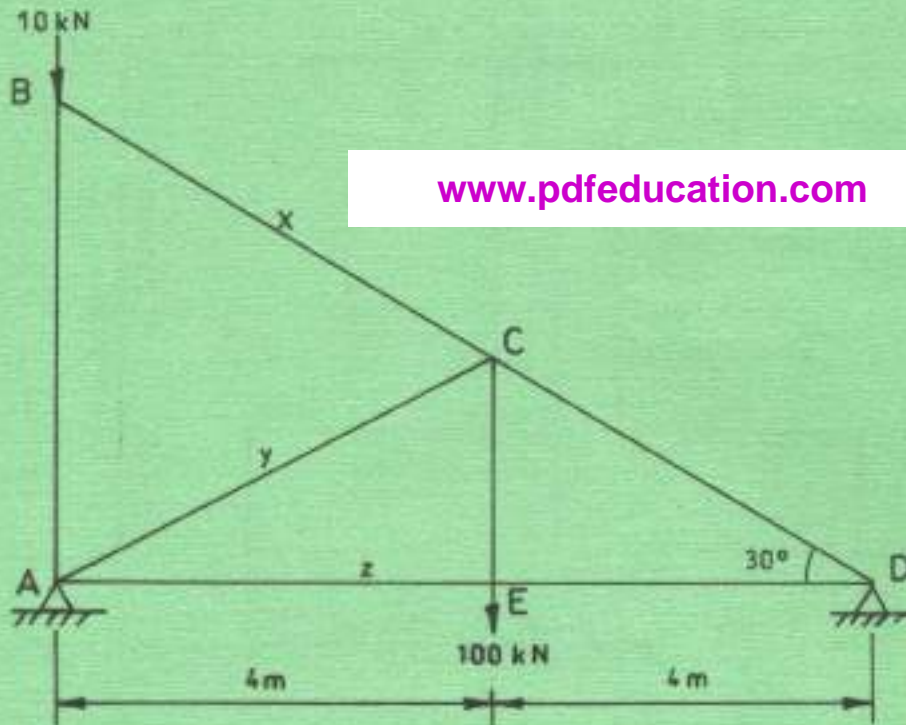

Fig. 4
3. (a) Using the method of section, analyse the forces and state the nature of forces for members x, y and z for the plane frame shown in figure 4. (12 marks)